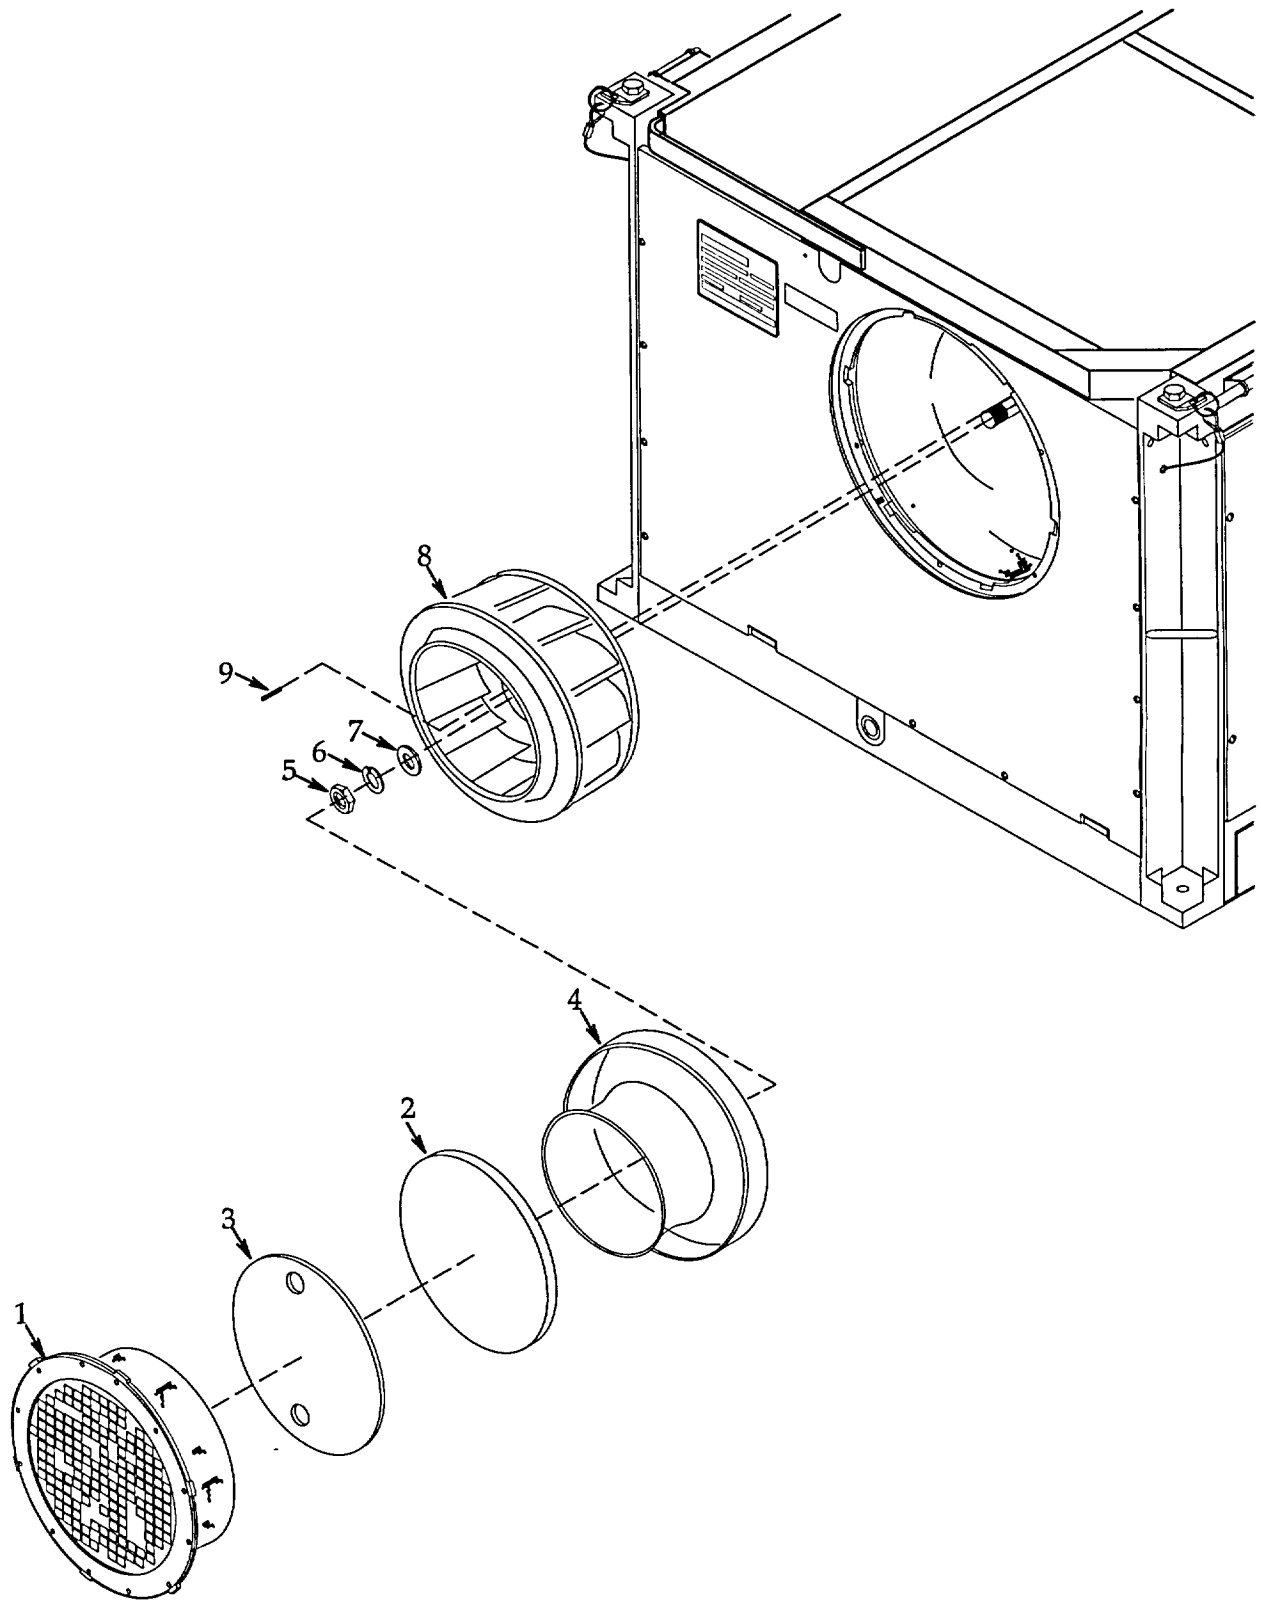

Figure 4-46. Inside Blower Assembly.
- a. **Removal.** See figure 4-46.
- (1) Shutdown the FDECU per paragraph 2.4 and disconnect it from power source.
- (2) If duct is attached, remove per paragraph 4.57.
- (3) Turn flange assembly (1) to unlock then remove it. Be sure filter (2) and, if applicable, return cover (3) are kept in flange assembly.
- (4) Remove inlet bell (4).
- (5) Remove jam nut (5), lock washer (6), flat washer (7), inside blower (8), and key (9). Discard lock washer.
- b. **Installation.** See figure 4-46.
- (1) Install key (9), and inside blower (8). Secure with flat washer (7), new lock washer (6), and jam nut (5). Torque jam nut to 40 ft lb.
- (2) Install inlet bell (4). Spin inside blower (8) by hand and check that it spins freely and does not rub on inlet bell.